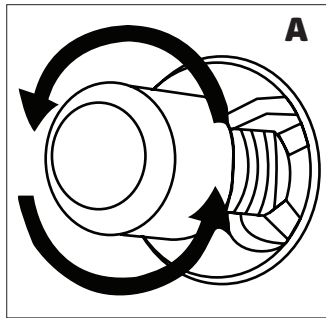
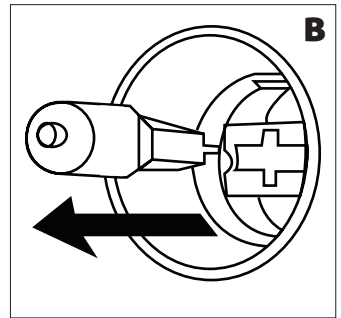

Figure 20
Figure 21
3. Then remove the oven lamp by turning it (see figure 20) if it is type **A**, or by pulling it (see figure 21) if it is type **B**.